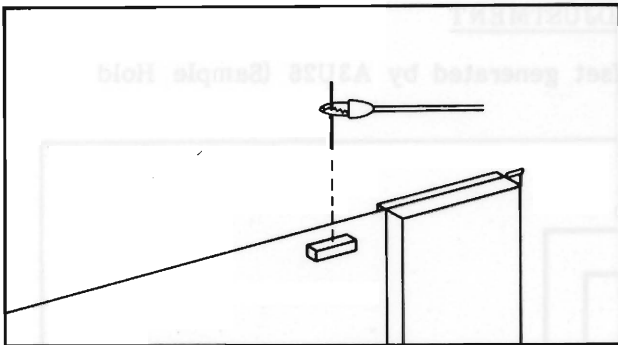

Figure 5-6. A5J1 Check.
- Adjust A11R17 (see Figure 5-6 for location) until the reading on the DVM is between 5.040V and 5.065V when 100 volt power line voltage is used. Use an insulated screwdriver.
WHEN A5J1 PIN 1 AND A5J1 PIN10 ARE CHECKED, THE 11003A TEST LEAD (PROBE AND ALLIGATOR CLIP TO DUAL BANANA) SHOULD BE USED FOR THE CHECK. IF THE TEST LEAD IS NOT AVAILABLE, USE THE 11002A TEST LEAD WITH A SHORT WIRE AS SHOWN IN FIGURE 5-6, BUT BE CAREFUL. DC VOLTAGE EXCEEDING 100V IS PRESENT AT THE CHECK POINT.